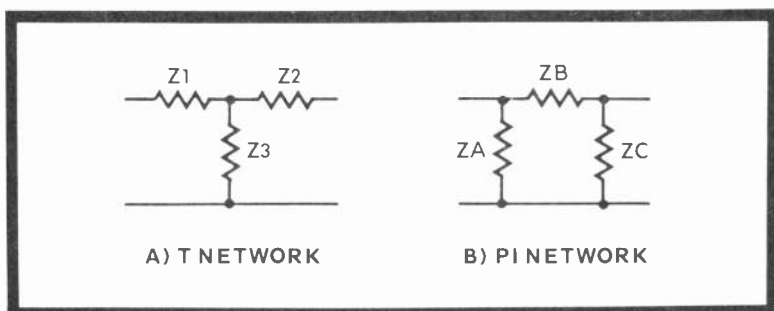

Fig. 13-10. T and pi equivalent networks, which are directly interchangeable with proper value components. (A) T network; (B) pi network.
There are also pi padder networks that can be used readily in place of T padders if you wish. The converting equations are rather easily used. This time, however, we'll adopt the term impedance instead of resistance and so make the application broader in the sense that not only will it cover resistances but reactances as well. Therefore, the symbols in Fig. 13-10 will be in impedance (Z) terminology for both the T and pi section padders. To convert from a pi to a T network, use the following equalities: